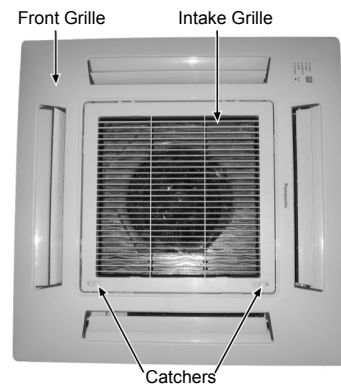

Fig. 1
- 1 Open the Intake Grille from the Front Grille by moving the catchers to center (Fig.1).